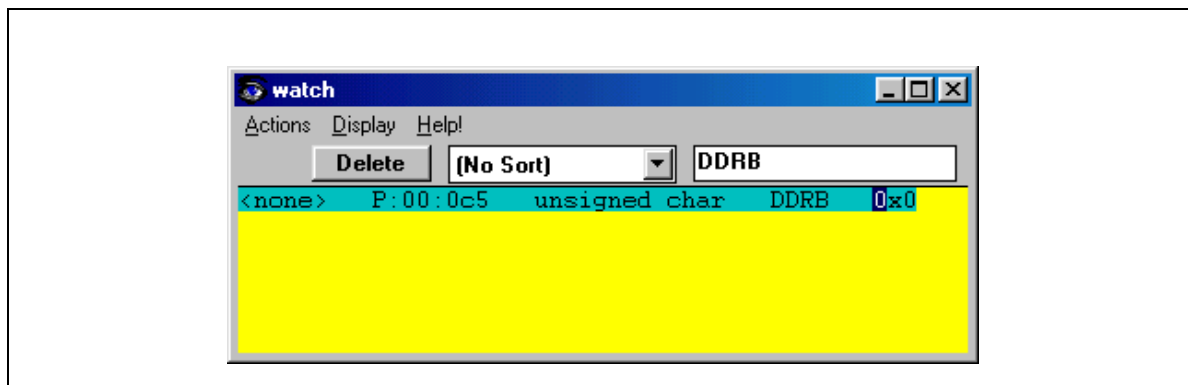

Figure 13: Watch window
- 3 Scroll through the symbols to find **DDRB**, click it once to highlight it and then click **Add To Watch**. This causes the **Watch** window (see *Figure 13*) which displays the contents of **DDRB** to pop up.